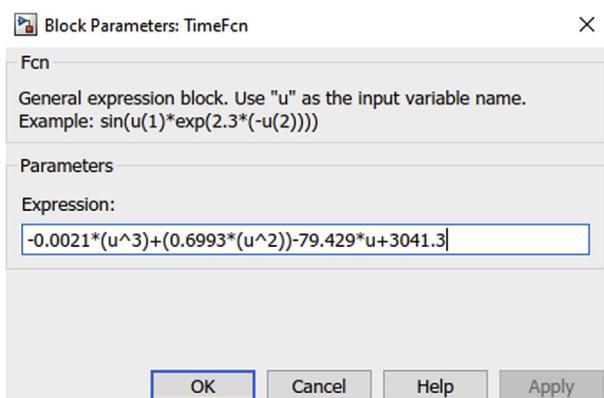

Figure 10.29 Piecewise function for time to RPM.
- d. Insert the fifth piecewise function for the TimeFcn block as shown in Fig. 10.29.